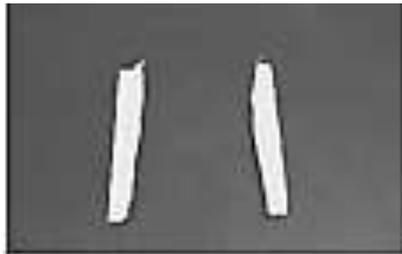

Figure 4-15: Operator takes the green fixture to storage.
STEP 2: He must then pick up the green fixture and take it to storage (see Figure 4-15).